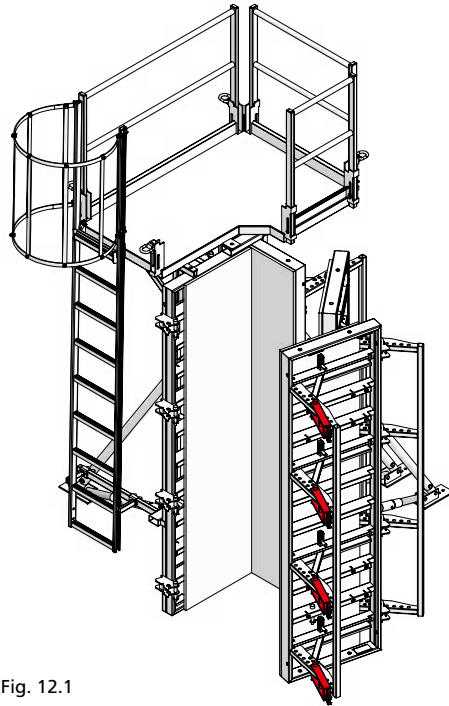

Fig. 12.1
1. Rotate the column panels into position and close them by hand as far as possible (Fig. 12.1).